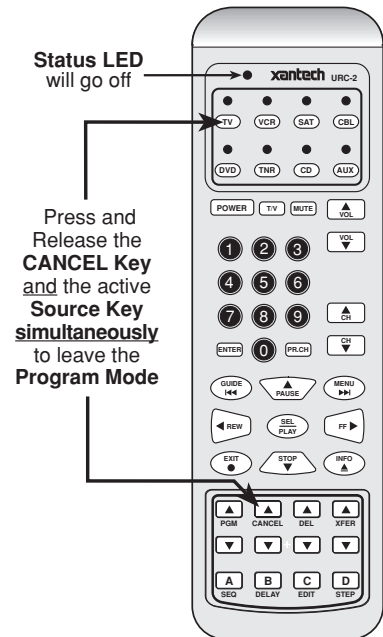

Fig. 7
7. When finished, press **CANCEL** and the active **Source Key** simultaneously to leave the Program Mode (or allow it to time out by waiting 30 seconds). Refer to **Fig. 7**.